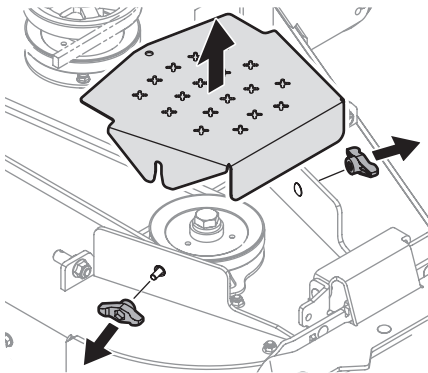

Figure 32
- Clean the top of the mower deck, under the spindle covers and belt area. See Figure 32.